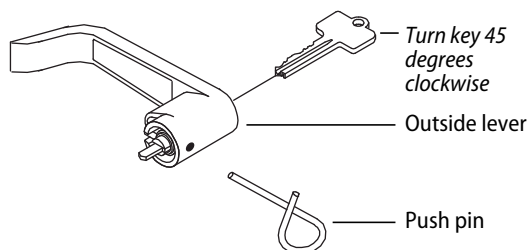

Figure 19 Removing the outside non-IC lever
- 2 Depress the lever catch through the hole in the outside lever by using the push pin or other suitable tool. See Figure 19.